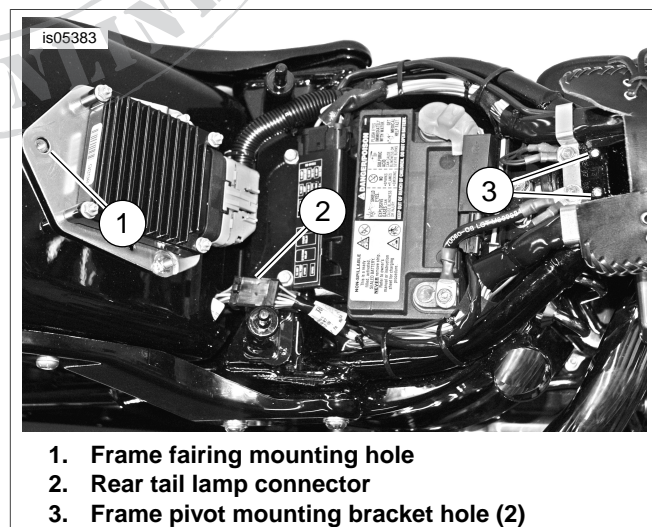
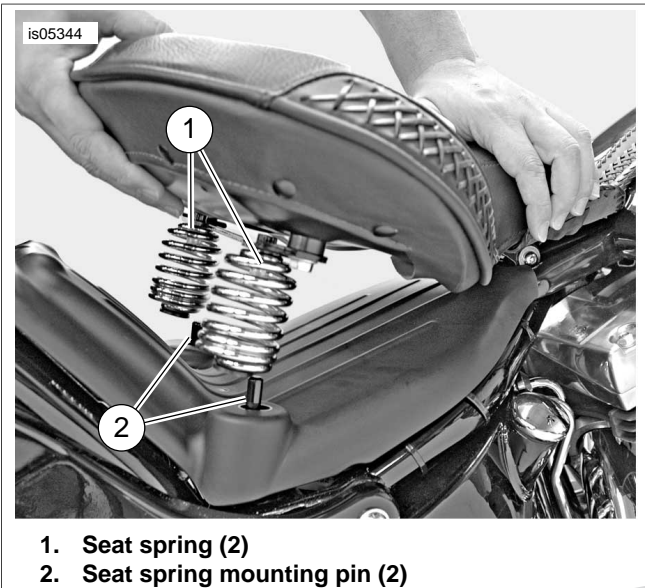

Figure 1. Install Spring Seat
Figure 2. Seat Springs and Mounting Pins
2. Install frame pivot mounting bracket (19) to frame with screws (1) in mounting holes (Figure 1, item 3). Tighten to 90-110 **in-lbs** (10-12 Nm).
3. Remove rear tail lamp connector (Figure 1, item 2) from T-stud. Disconnect connector halves.
5. Install spring seat support (20) to the bottom of the seat with two bolts (4). Tighten finger-tight.
6. Install seat hinge (14) to seat bottom with bolt (7), washer (9) and locknut (10). Tighten to 20-25 ft-lbs (27-34 Nm).
7. On a workbench, install springs (16) to spring seat support bracket (20) with screws (3) and washers (8). Tighten to 14-16 ft-lbs (19-22 Nm). Install spring bushings (12).
8. Install spring base seat bracket (18) to the fuse block bracket with screws (6). Tighten to 96-120 **in-lbs** (11-14 Nm).
10. Install frame fairing (17) to the frame with screw (2) in mounting hole (Figure 1, item 1). Ensure the front tang is engaged under the frame mount pivot bracket.
11. Align seat hinge (14) with pivot mounting bracket.
12. Insert screw (5) and washer (9) into seat hinge from the right side of vehicle. Tighten to 14-16 ft-lbs (19.0-21.7 Nm).
13. See Figure 2. Align the bushings on the seat springs (1) with the seat mounting pins (2). Push rear of seat down firmly to engage the seat spring mounting pins.